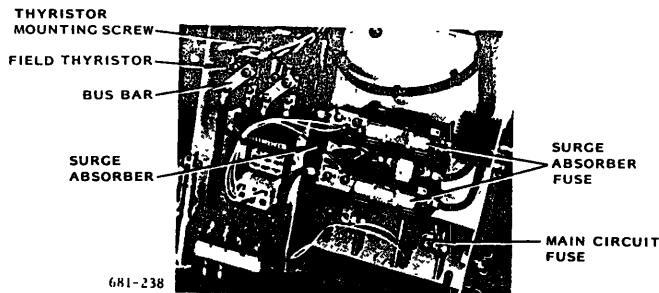

Fig. 11 Field Thyristor (230V, 25A)
- Loosen the bus bar screws and the lead clamping screws, and unclamp the leads. In this case, mark all the terminals for identification. (Fig. 11)